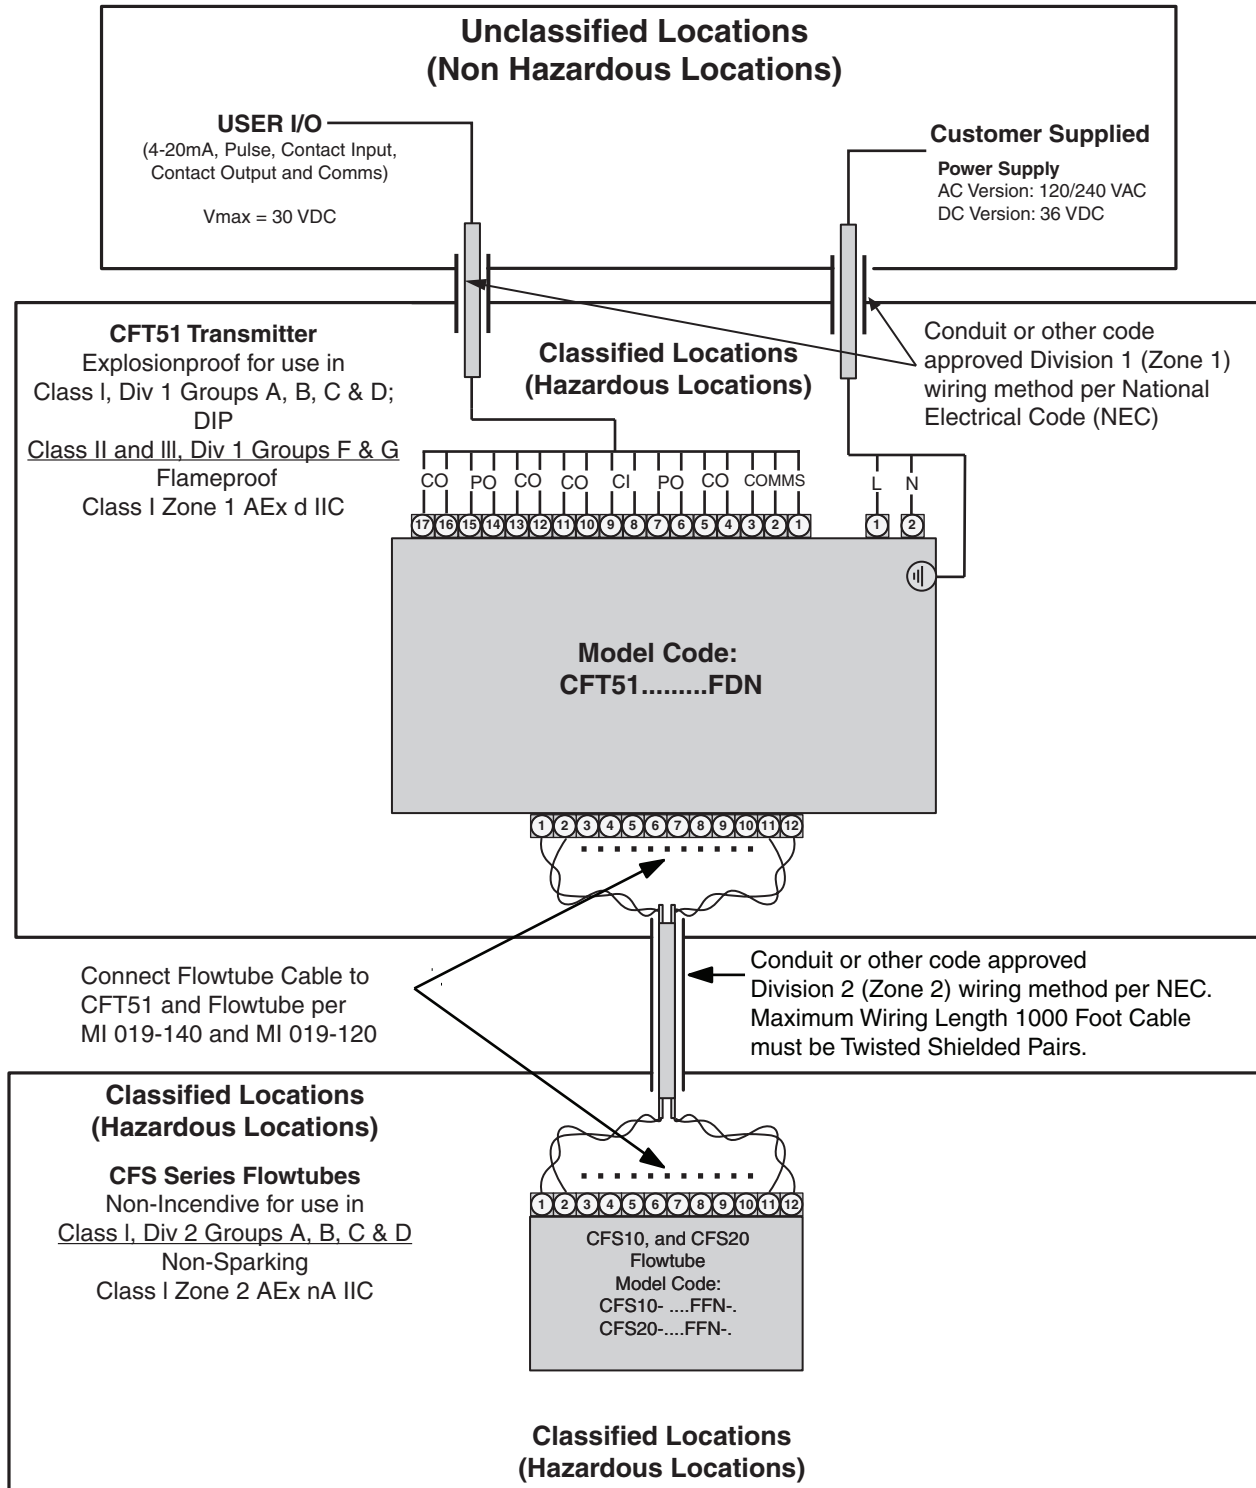

Figure 3. Flowtube in Class I, Division 2 (Non-Incendive) and Transmitter in Class I, Division 1 (Explosionproof) Area
1. Figure 3 must not be revised without prior FM approval.